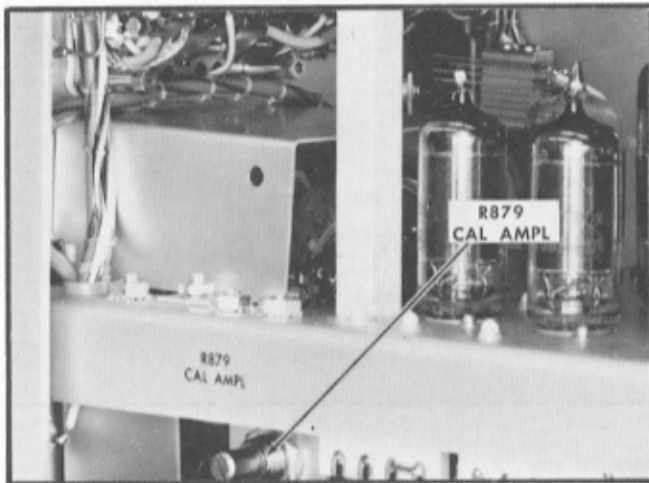

Fig. 6-8. Location of Cal Amp adjustment R879.
- d. Adjust the Cal Ampl R879 (Fig. 6-8) for a null on the test oscilloscope display (display appears as a straight line).